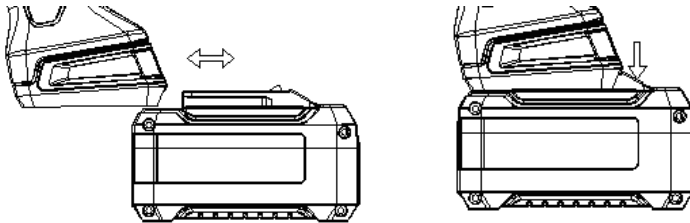

Fig. 1
1.1 Assemble the fully charged battery pack as Fig.1.